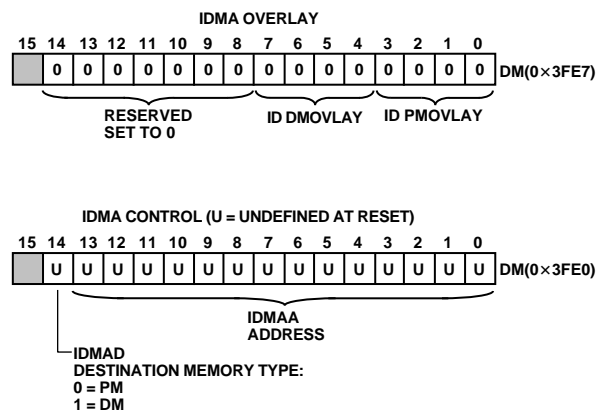

Figure 8. IDMA Control/OVLAY Registers
Through the IDMAA register, the DSP can also specify the starting address and data format for DMA operation. Asserting the IDMA port select (IS) and address latch enable (IAL) directs the ADSP-2187L to write the address onto the IAD0–14 bus into the IDMA Control Register. If IAD[15] is set to 0, IDMA latches the address. If IAD[15] is set to 1, IDMA latches OVLAY memory. The IDMA OVLAY and address are stored in separate memory-mapped registers. The IDMAA register, shown below, is memory mapped at address DM (0x3FE0). Note that the latched address (IDMAA) cannot be read back by the host. The IDMA OVLAY register is memory mapped at address DM (0x3FE7). See Figures 8 and 9 for more information on IDMA and DMA memory maps.